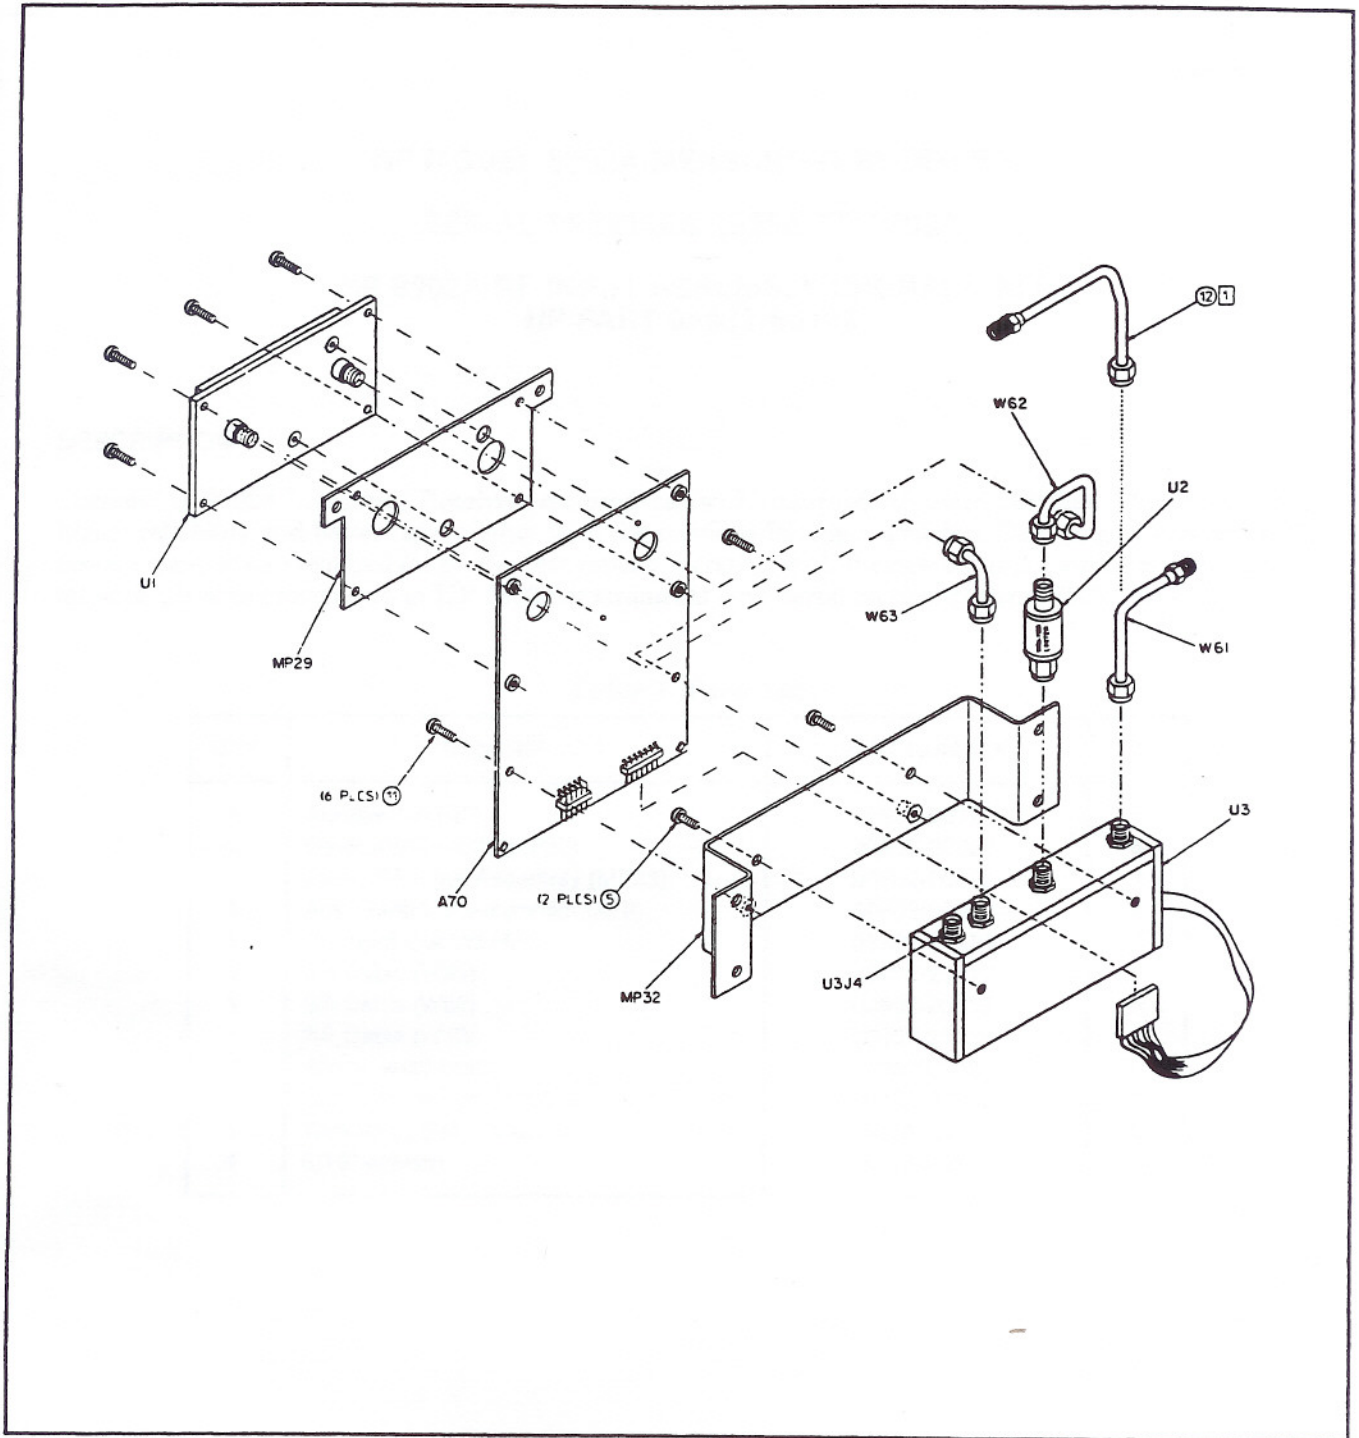

Figure 1. Exploded View of RF Input Assembly
Refer to Figures 6-2 and 6-5 on pages 6-148 and 6-151 in Volume 2 of the HP 8902A Service Manual and to Figure 1 at the end of this procedure for steps 5 through 12. Use wrench 5021-2810 (5/16 in., supplied with kit), for loosening and tightening SMA connectors.
8. Connect U1 and MP29 to the new A70 (HP P/N 08902-60064). (Refer to Figure 1.) Use the screws just removed in the above step.
9. Connect Attn/Switch (U3, HP P/N 08901-60121) to new MP32 (HP P/N 08902-00063). Refer to Figure 1 for assembly orientation. Use two 2200-0105 screws to attach U3 to MP32.
- c. Attach U2 to U3 as shown in Figure 1.
- d. Connect W62 (HP P/N 08902-20118) and W63 (HP P/N 08902-20119) to U1 and U3/U2 as shown in Figure 1. Take extreme caution to make sure that all cables are aligned correctly. Tighten all connections then tighten the screws attaching the A70 board to MP32.
- f. Connect W61 (HP P/N 08902-20117) to U3 as shown in Figure 1. Leave the connection loose.
- a. Connect W61 to W1. Leave connection loose. Refer to Figure 6-2 for location of W1 and to Figure 1 for location of W61.
- c. Connect the new RF Input Assembly to MP33 with the six screws removed in step 5e. The RF Input Assembly on Figure 1 is shown inverted to enhance detail. The RF Input Assembly is oriented with the connectors on U3 oriented down, when installed in the HP 8902A.
- h. Connect the U3 control ribbon cable to the A70 board (Figure 1). The brown wire on the U3 ribbon cable is oriented to the right as viewed from the front of the instrument.